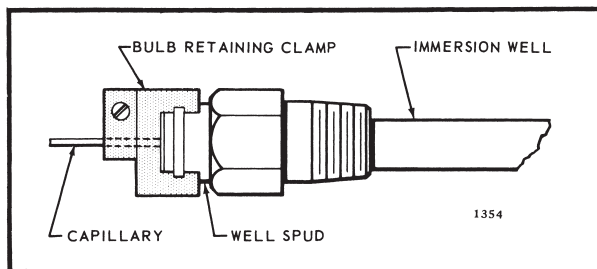

FIG. 8—IMMERSION WELL ASSEMBLY.
4. Fit bulb retaining clamp over immersion well flange and capillary tubing, and tighten screw, as shown in Fig. 8.